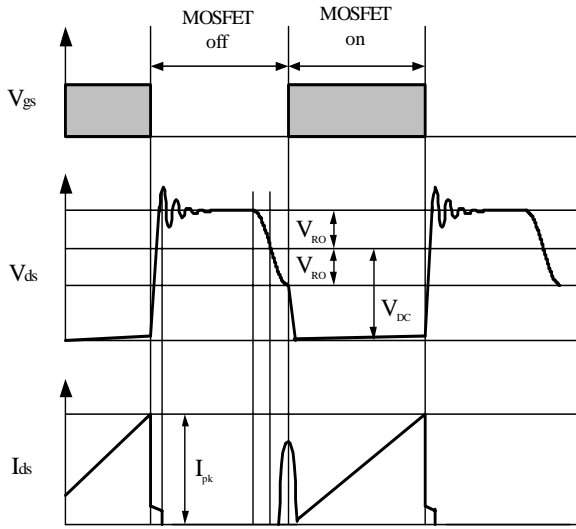
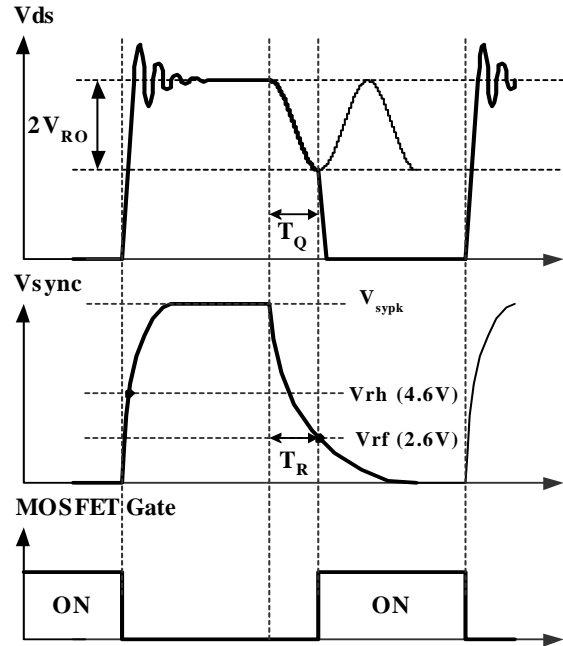

Figure 4. Quasi-resonant operation waveforms
Figure 5. Normal quasi-resonant operation waveforms
**1. Startup :** Figure 4 shows the typical startup circuit and transformer auxiliary winding for FSCQ1565RP application. Before FSCQ1565RP begins switching, FSCQ1565RP consumes only startup current (typically 25uA) and the current supplied from the AC line charges the external capacitor (Ca1) that is connected to the Vcc pin. When Vcc reaches start voltage of 15V (VSTART), FSCQ1565RP begins switching, and the current consumed by FSCQ1565RP increases to 4mA. Then, FSCQ1565RP continues its normal switching operation and the power required for this device is supplied from the transformer auxiliary winding, unless Vcc drops below the stop voltage of 9V (VSTOP). To guarantee the stable operation of the control IC, Vcc has under voltage lockout (UVLO) with 6V hysteresis. Figure 5 shows the relation between the FSCQ1565RP operating supply current and the supply voltage (Vcc).